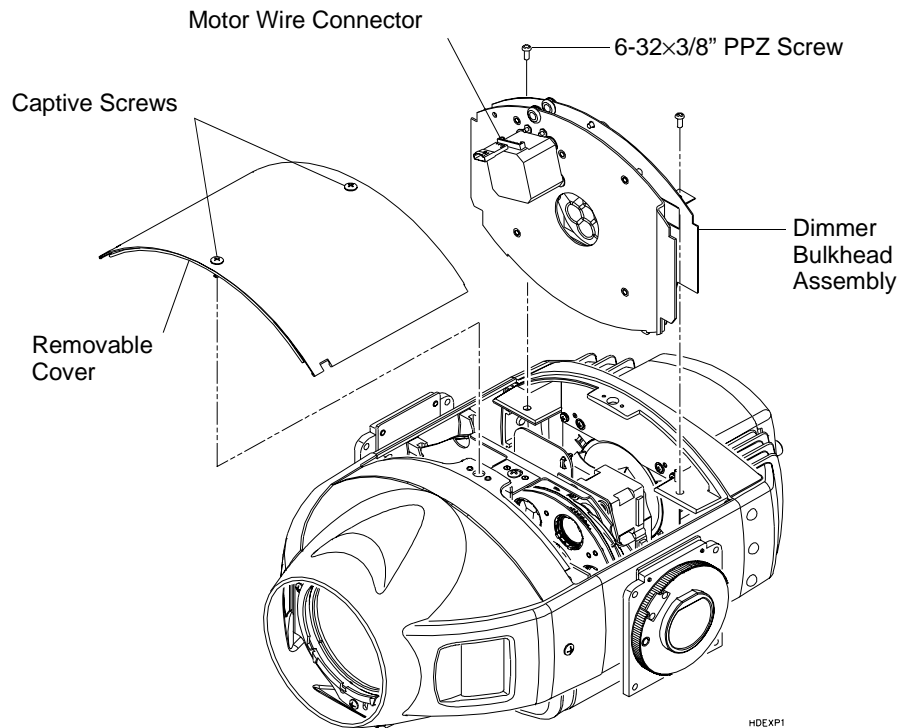

Figure 2-7: Dimmer Bulkhead Replacement
- Step 2. At head cover, turn two captive screws one-quarter turn and remove cover. (It will remain attached by tether.) **Figure 2-7.**